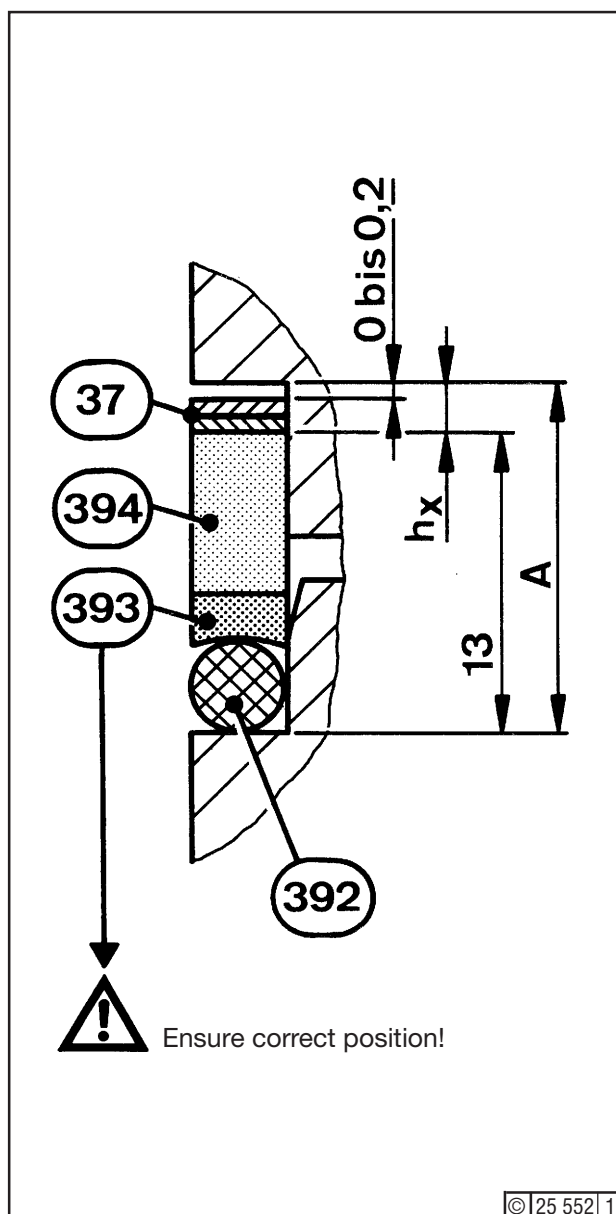

Fig. 2
Thickness of seal pack = 13 mm - Fig. 2
Install element (Job Card 07.02.01). Insert seal components as per Fig. 2. Make sure that the groove of supporting ring (393) is positioned on O-seal (392). Apply Parker-O-Lube on all components of the element seal pack to facilitate installation.